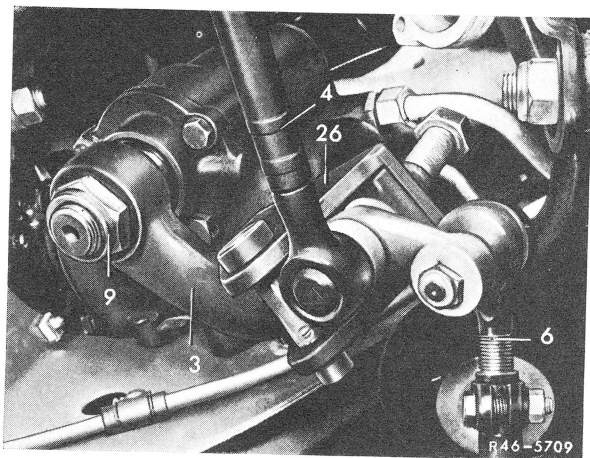

Fig. 2
- 2 Screw self-locking hex. nut (9) from pitman shaft (Fig. 2).